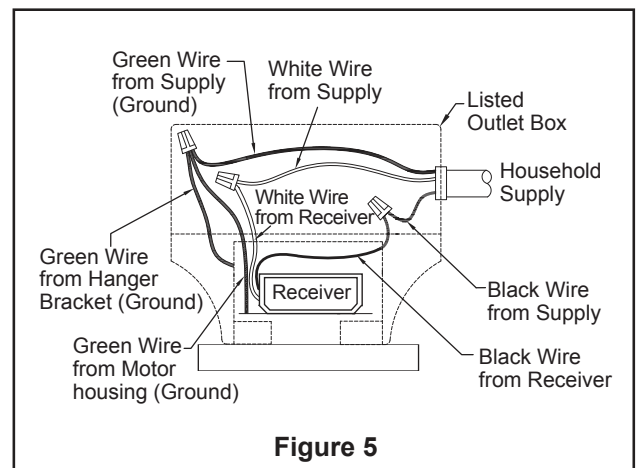

Figure 5
4. After connections have been made, the wires should be spread apart with the grounded conductor and the equipment-grounding conductor on one side of the outlet box and the ungrounded conductor on the other side of outlet box, then turn leads upward and carefully push leads into the outlet box, with the white and green leads to one side of the box and the black leads to the other side. (Figure 5)
5. How to use the remote control (figure 5)